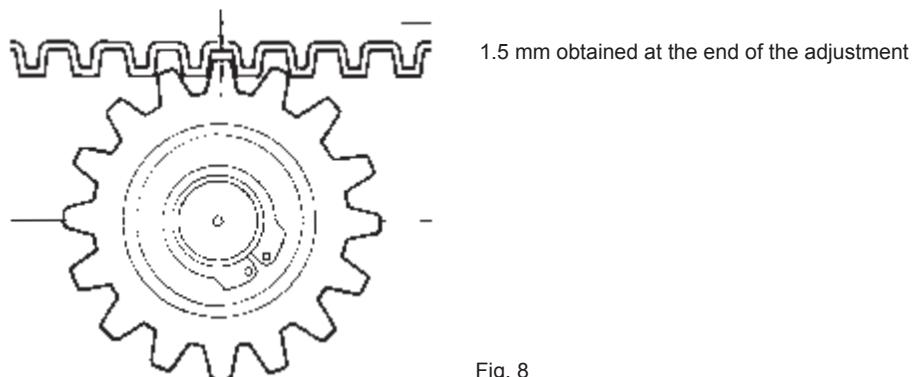

Fig. 8
- There should be a clearance of 1.5 mm. between the pinion and rack over the whole length of the gate (Fig. 8).